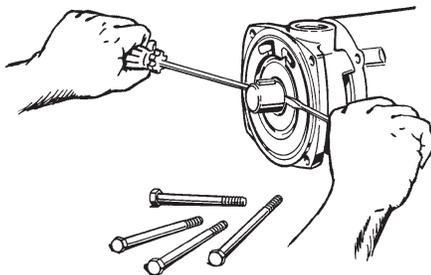

Figure 4-2
6. Remove the shaft sleeve (#17). The sleeve is a keyed fit and is removed using two large screw drivers, Refer to Figure 4-2.